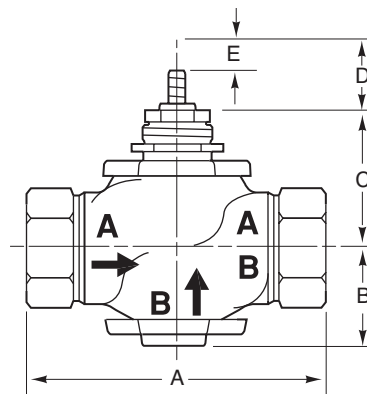

Figure-5 Typical of VB-7223-0-4-P Valve Bodies.
**Table-9 Dimensions for VB-7223 Series Valves (Figure-5).**